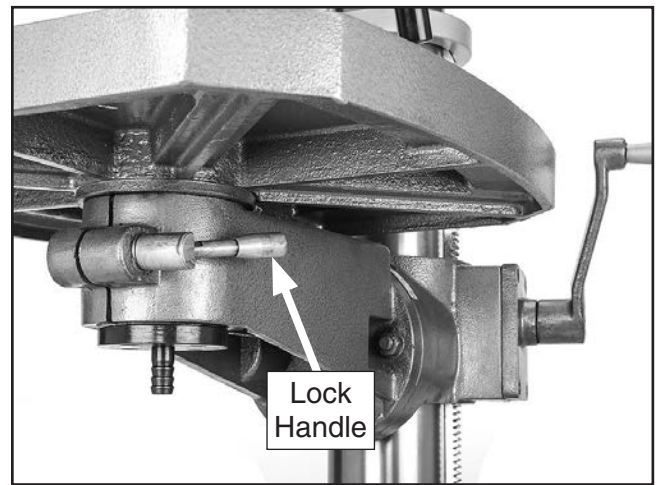

Figure 12. Lock handle for controlling table rotation.
2. Loosen lock handle shown in **Figure 12**.